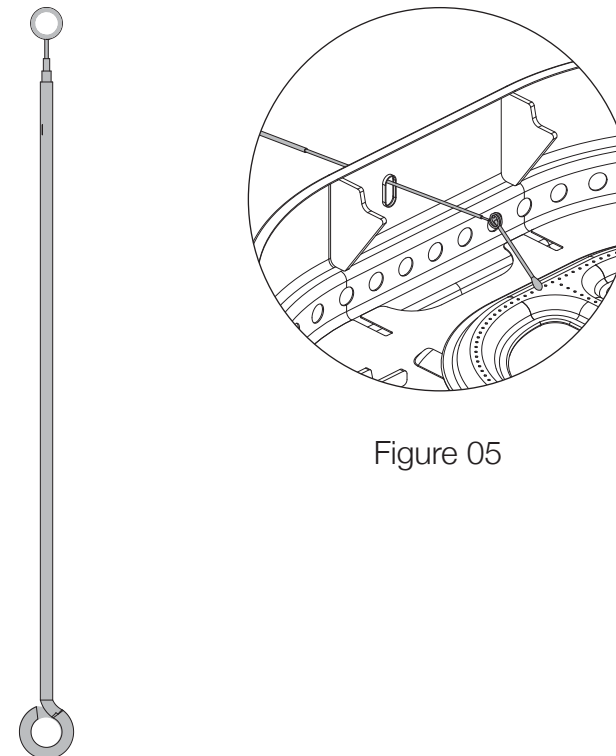

Figure 05
3. With the match holder extended, insert the lit match into the Griddle until it is over the burner tube. The tube should light (see Figure 05).